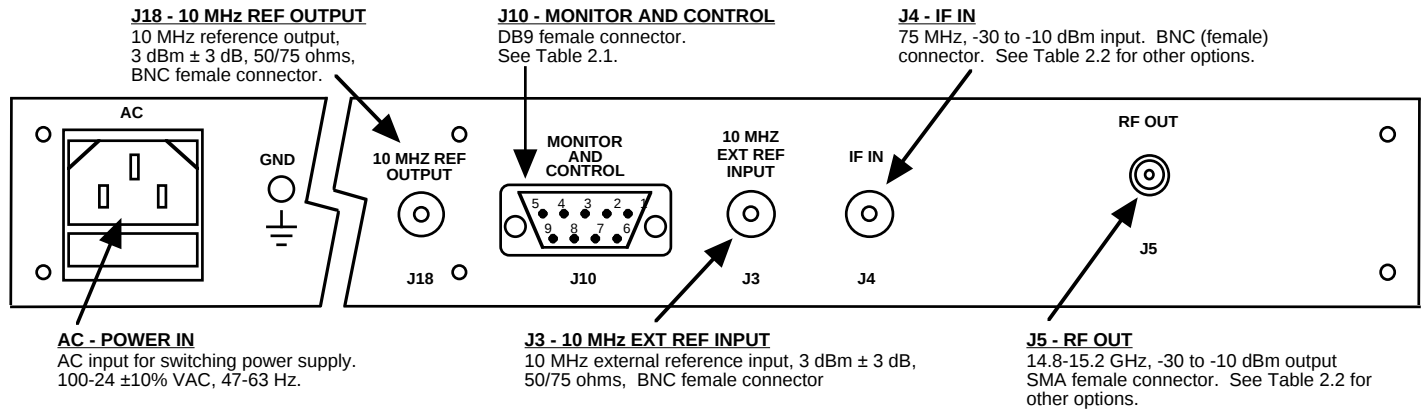

FIGURE 2.2 2015-152 Rear Panel Inputs and Outputs
2.2 Rear Panel Input / Output Signals - Figure 2.2 shows the input and output connectors on the rear panel.
1. Connect a -30 dBm to -10 dBm, 70 MHz signal to IF IN, J4 (Figure 2.2)
Alarm indications appear on the LEDs (see figure 2.2).